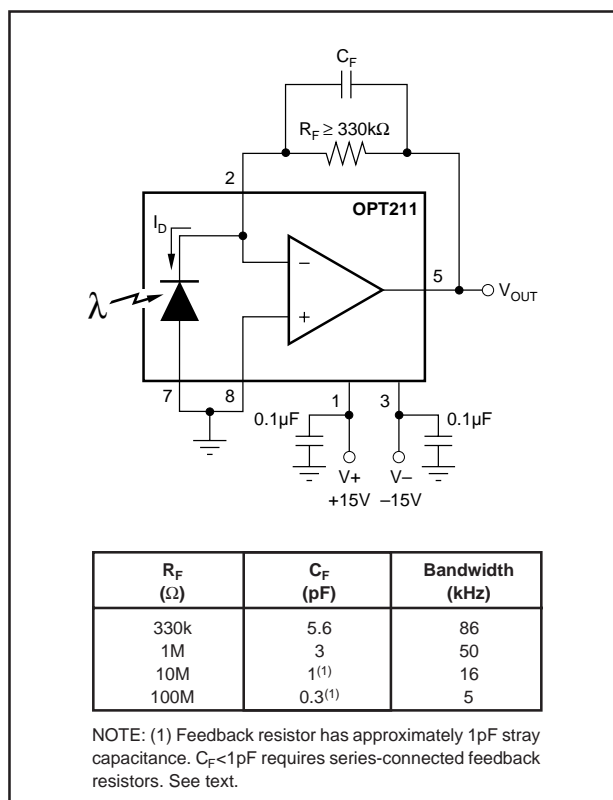
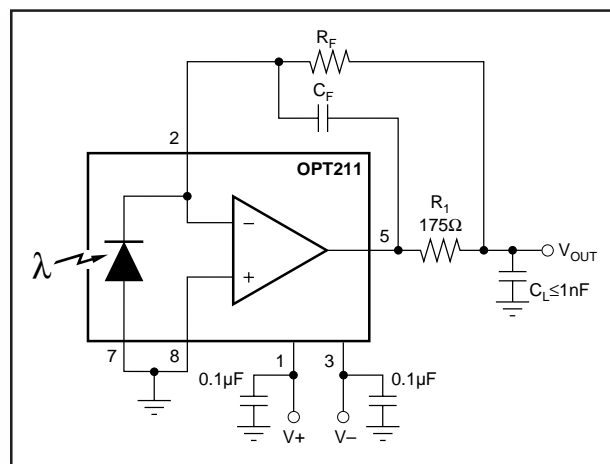
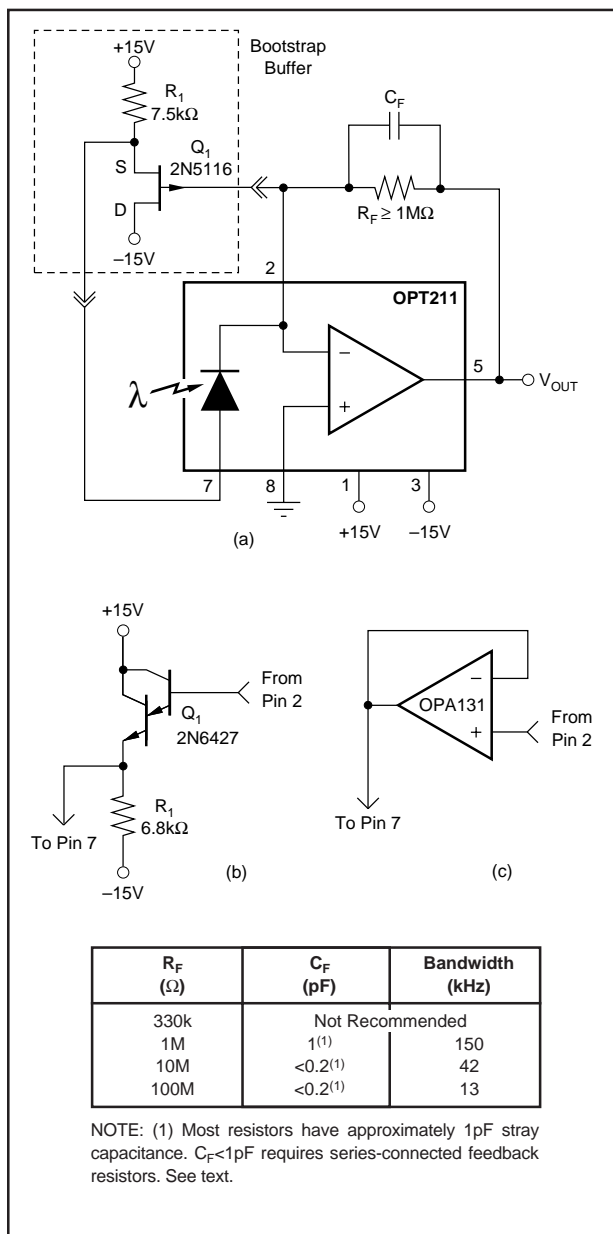

FIGURE 1. Basic Circuit Connections.
FIGURE 2. Increasing C-Load Drive.
FIGURE 3. Increasing Bandwidth with Bootstrap Buffer.
At $T_A = +25^{\circ}\text{C}$, $V_S = \pm 15\text{V}$, $\lambda = 650\text{nm}$, external $1\text{M}\Omega$ feedback resistor, circuit shown in Figure 1, unless otherwise noted.
NOTES: (1) Referred to Output. Includes all error sources. (2) See Figure 1. (3) See Figure 3. (4) See Figure 2.
At $T_A = +25^\circ\text{C}$, $V_S = \pm 15\text{V}$, $\lambda = 650\text{nm}$, external $1\text{M}\Omega$ feedback resistor, circuit shown in Figure 1, unless otherwise noted.
Figure 1 shows the basic connections required to operate the OPT211. Applications with high impedance power supplies may require decoupling capacitors located close to the device pins as shown in Figure 1.
The OPT211’s output voltage is the product of the photodiode current and feedback resistor, ($I_D R_F$). The feedback resistor must be greater than 330k Ω for proper stability. A feedback capacitor, C_F , must be connected as shown. Recommended values are shown in Figure 1. Capacitor values for other feedback resistances can be interpolated.
The circuit in Figure 1 can drive capacitive loads up to 250pF. To drive load capacitance up to 1nF, connect R_1 and the feedback components as shown in Figure 2.
Dark error specifications include all error sources and are tested with the circuit shown in Figure 1 using $R_F = 1$ M Ω . The dominate dark error source is the input offset voltage of the internal op amp. The combination of photodiode dark current and op amp input bias current is approximately 1.5pA at 25°C. Even with very large feedback resistors, this contributes virtually no offset error. Dark current and input bias current increase with temperature, doubling (approximately) for each 10°C increase. At 70°C, dark current is approximately 35pA. This would produce 3.5mV offset with a 100M Ω feedback resistor.
Bandwidth of the OPT211 can be increased with the feedback buffer circuits shown in Figure 3. Driving the anode of the photodiode (pin 7) in this manner reduces the effect of the photodiode’s capacitance on signal bandwidth. This “bootstrap drive” circuit boosts bandwidth by approximately 3x. Bandwidth achieved with various R_F values is shown in Figure 2. When using a bootstrap buffer, R_F must be greater or equal to 1M Ω for stable operation.
Noise performance of the OPT211 is shown in typical curves for various feedback resistor values. This curve specifies the total noise measured from 0.1Hz to the indicated bandwidth. High frequency noise is reduced with the bootstrap transistor buffer circuits shown in Figure 1. This effect is shown on the typical curve.